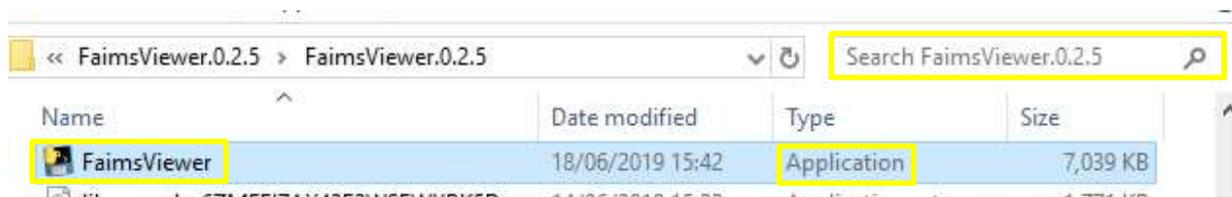

Figure 2. FaimsViewer launcher. Create a short cut and place it in the desktop for future data processing.
3.1.2 The folder generated will contain several files. Find the “FaimsViewer” application file (Figure 2) by using the “Search” box and execute it to launch the software.